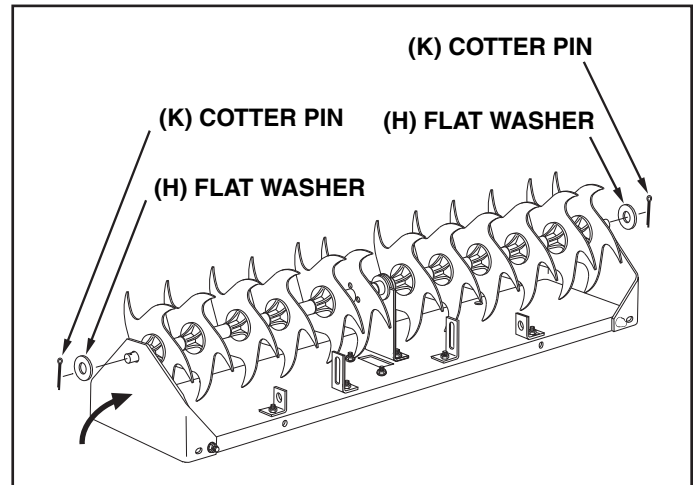

FIGURE 6 **REAR VIEW**
9. Pivot the end plate up onto the end of the axle. See figure 6.
10. Assemble a flat washer(s) (H) and a cotter pin (K) to one end of the axle. Use as many washers as needed to eliminate any gaps between the parts on that end of the axle. See figure 6.
11. Repeat the procedure for the other end of the axle. See figure 6.